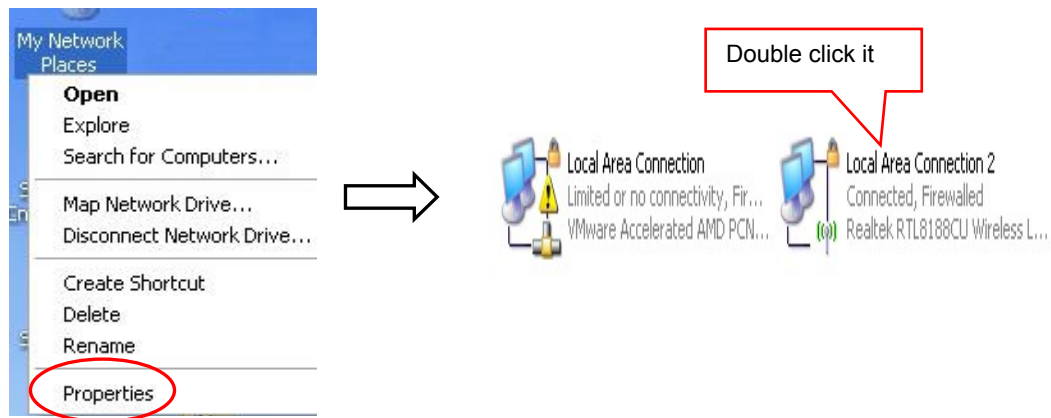

Figure 8
- (1) Get the security mode and encrypt type according to the corresponding network information given by the network administrator.
- (2) Find them by entering the router of hotspot with the administrator's account.
- (3) Find them through Windows operating system and the steps are shown below (Take WIN XP as an example):
- ① Right click "My Network Places", and click "Properties", then double click "Local Area Connection 2" (as shown in Figure 8).